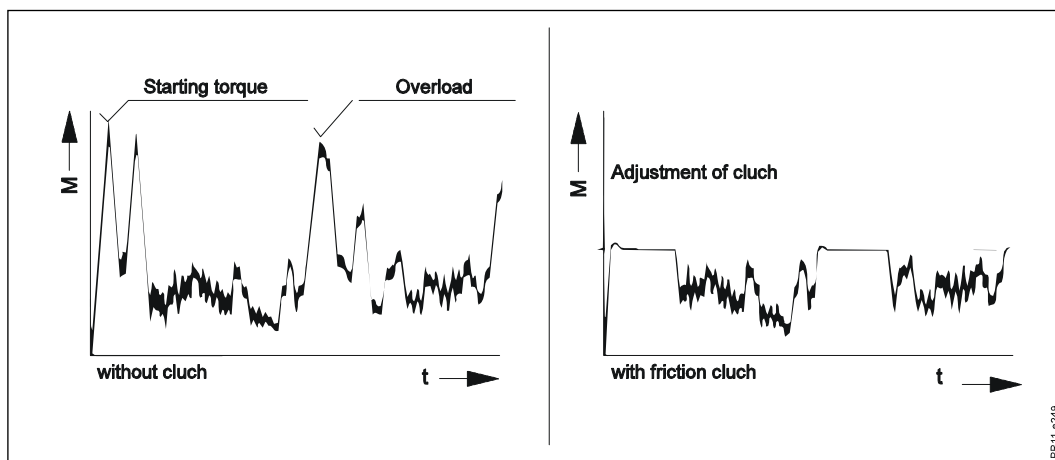

Fig. 5-1
**Fig. 5-1** In order to ensure a long life for your tractor and machine the machine is delivered with **friction clutch** on the PTO drive shafts between the frame and cutting units. The difference between these is the direction in which the free-wheeling is running. The figure illustrates how the clutch protects the transmission against high torque peaks and at the same time is capable of transmitting the torque while it slips.